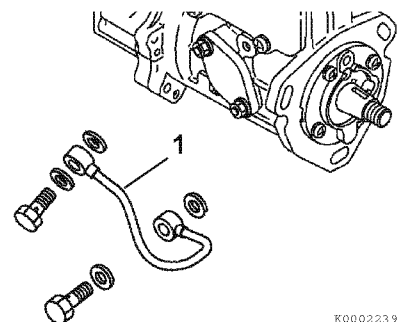

Figure 7-16
12. Remove the lube oil line (1, **Figure 7-16**) from the fuel injection pump and cylinder block.